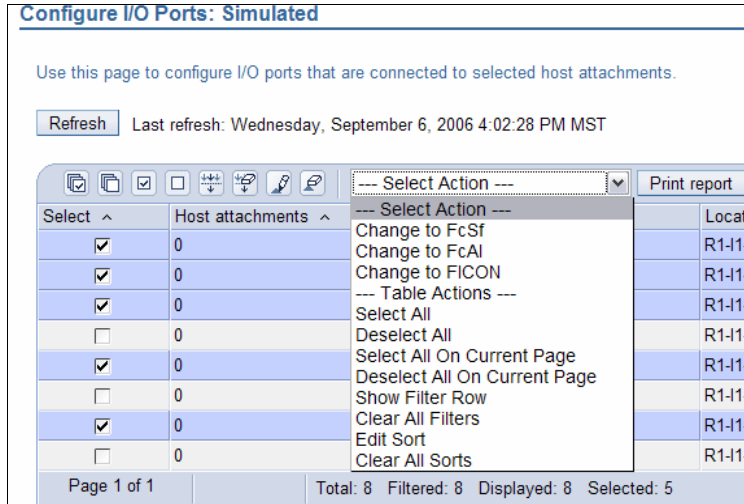

Figure 12-12 Configuring I/O ports: Making your selection
7. Having selected some or all of the I/O ports, from the Select Action drop-down menu, you can set the I/O ports to your chosen topology, as shown in Figure 12-12. If you choose to use different topologies for different ports you can also do this. The topologies are: